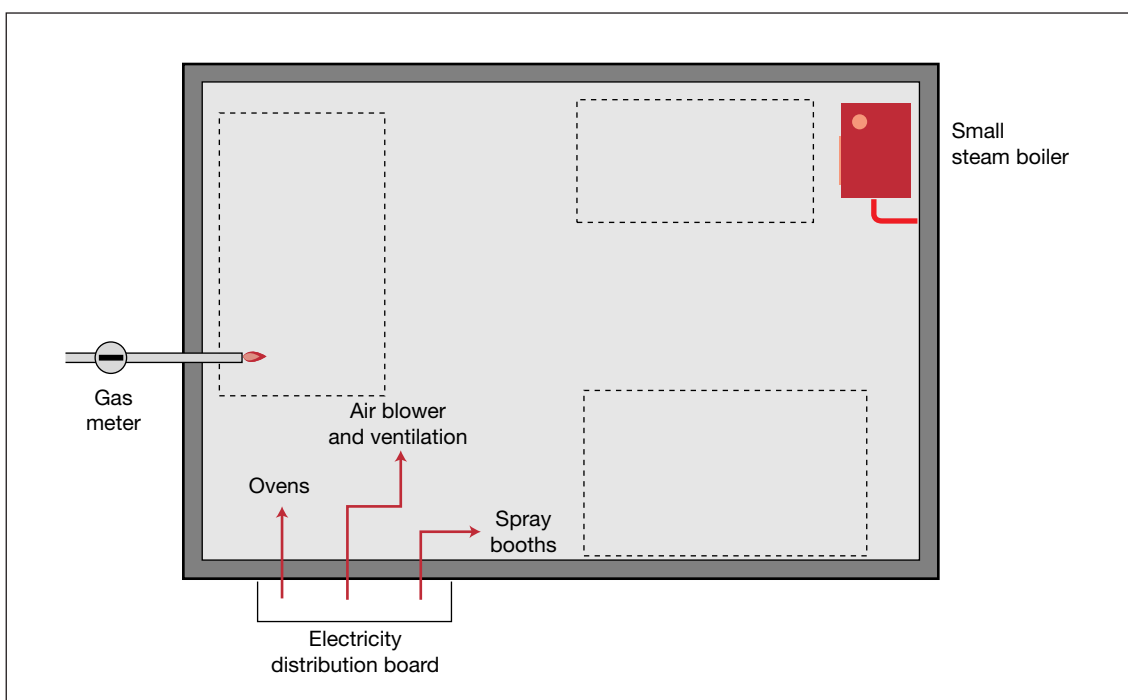

Fig 5 Example of plant layout showing main energy inputs
- Make a second sketch that shows the main energy inputs. Fig 5 shows an example. Identify any sub-meters² that already exist, and ask an electrician to show you the electrical distribution board (or wiring diagram) and where the main electrical feeds are located.